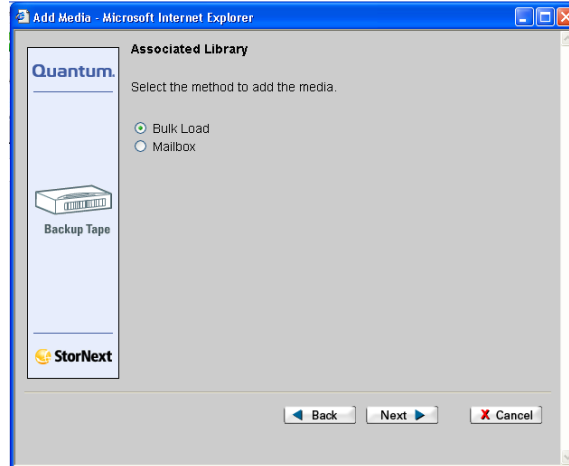

Figure 14.5-3. Associated Library Bulk Load Page
- 6 Select the **Bulk Load** button from the **Associated Library** page (Figure 14.5-3), and press the **Next** button.